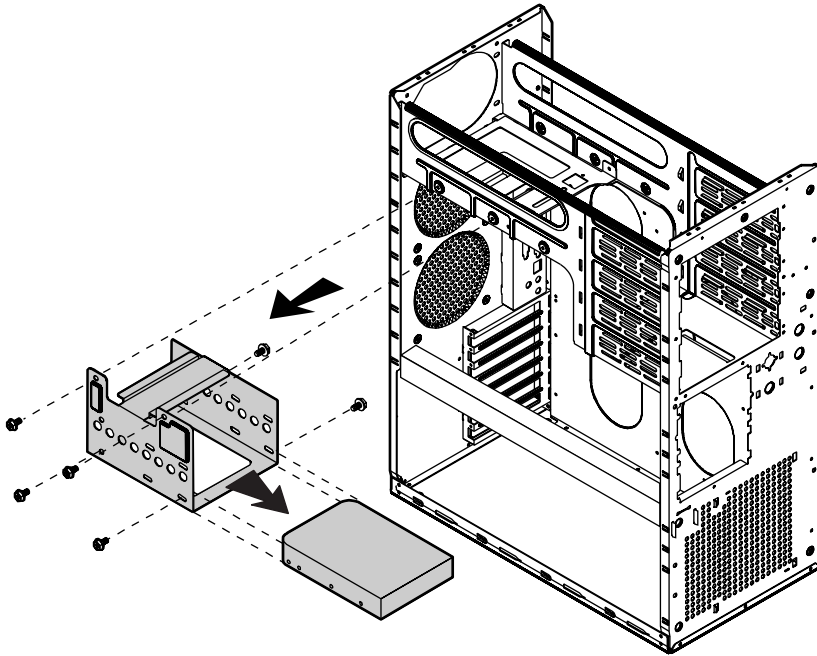

Figure 31: Removing the Hard Disk Bracket and Drive
5. Remove the screws that attach the hard disk mounting bracket to the chassis, and remove the bracket from the chassis (see Figure 31).
6. Remove the screws that attach the hard drive to the mounting bracket and remove the hard drive (see Figure 31).